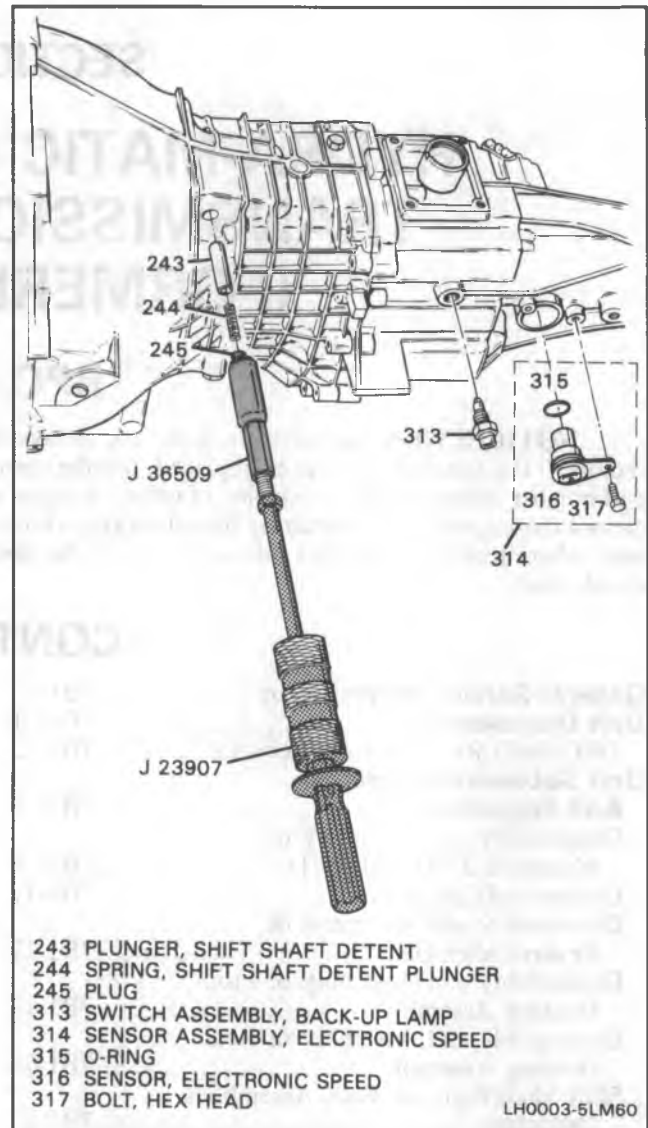

Figure 3 Removing External Components
2. Backup lamp switch assembly (313) (Figure 3).
3. Bolt (317) and electronic speed sensor assembly (314).
4. Detent plug (245) using J 36509 and J 23907, spring (244) and plunger (243).